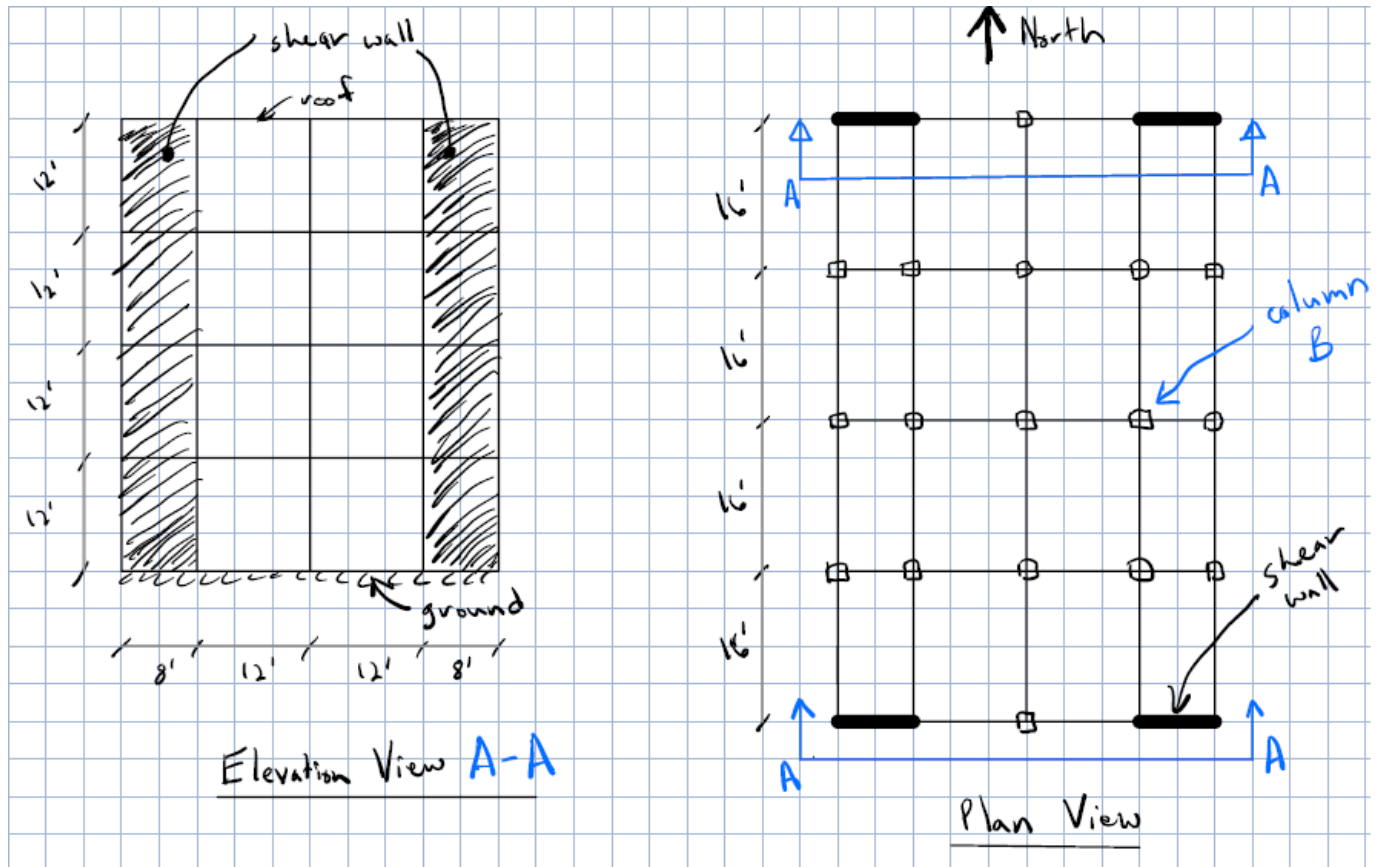

Figure 1
** **Figure 1** below shows two views of a four-story building which is to be used for Problems 1 and 2.
Problem 1 (25 points) – The enclosed building in Figure 1 needs to be designed for wind load. Only consider wind coming from the west. Assume that the windward pressure is 30 psf and that the leeward pressure is 10 psf. Assume that both the windward and leeward pressures are constant over the entire height of the building.
Problem 2 (25 points) – The building shown in Figure 1 has:
(a) Determine the design dead load and live load at the base of column B in Figure 1. Do not consider load factors. Do include the live load reduction factor.